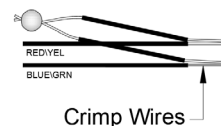

Figure 6 – Crimp GCA Wire Leads
5. In the middle of the exposed wire section, use small pliers to fold the wires in half and crimp leaving the shunt intact (Figure 6).